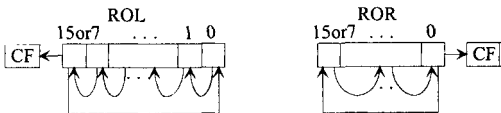

FIGURE 9.6 8086 ROR and ROL instructions
- ROL mem/reg, CNT rotates [mem/reg] left by the specified number of bits (Figure 9.6). The number of bits to be rotated is either 1 or contained in CL. For example, if CF = 0, (BX) = 0010₁₆, and (CL) = 03₁₆ then, after ROL BX, CL, register BX will contain 0080₁₆ and CF = 0. On the other hand, ROL BL, 1 rotates the 8-bit contents of BL 1 bit to the left. ROR mem/reg, CNT is similar to ROL except that the rotation is to the right (Figure 9.6).